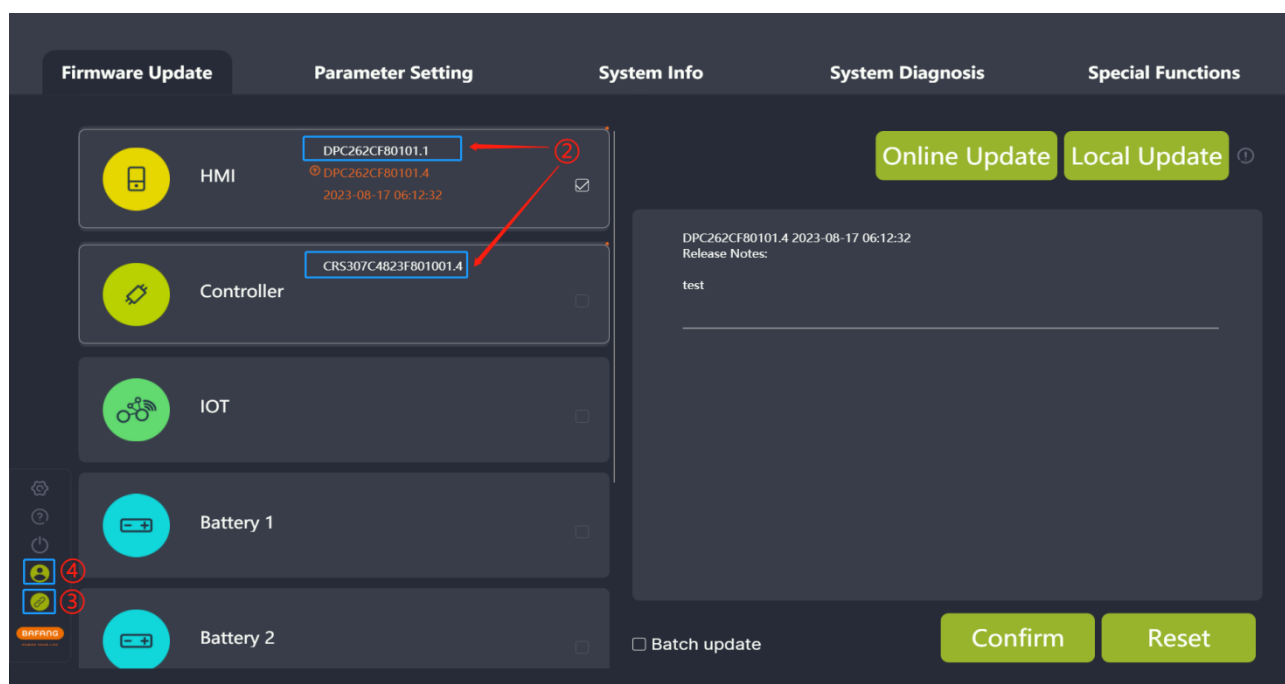

Fig. 3-2 Part Inspection
- (2) Read each part's information at the same time, and then display the information of connected parts (Fig.3-2);